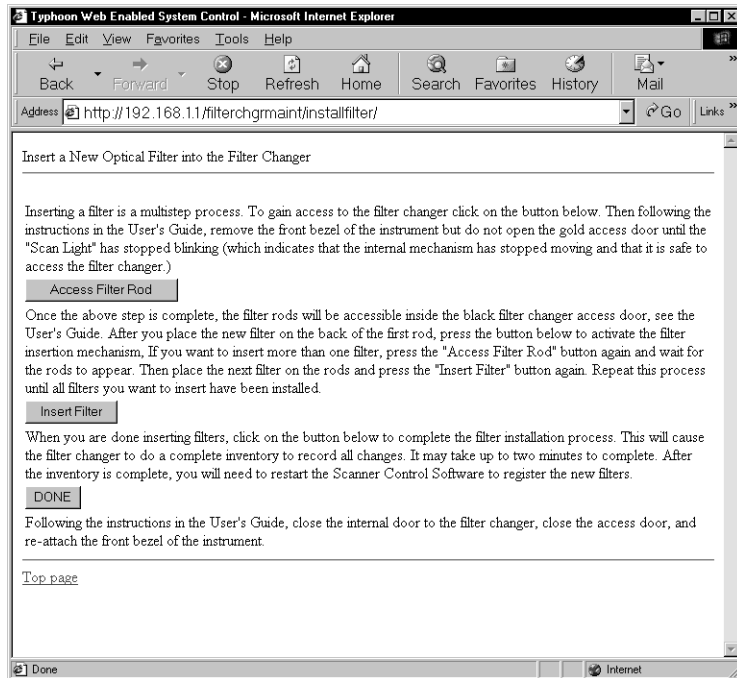

Figure 13-5. The Insert a New Optical Filter into the Filter Changer window.
3. Make sure the sample lid is closed, and then click **Install a New Optical Filter**. The Insert a New Optical Filter into the Filter Changer window appears (figure 13-5).
7. In the Insert a New Optical Filter into the Filter Changer window (figure 13-5), click **Insert Filter**. The filter changer moves back inside the Typhoon instrument. The instrument scans the bar code and moves the filter holder to a slot farther back in the changer.